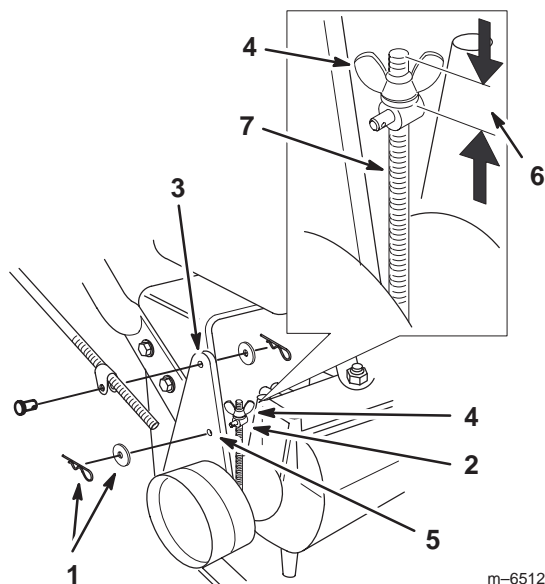

Figure 40
Note: For the initial adjustment, adjust the wing nut until it is 1–1/4 inches from the top of the rod (Fig. 40).
5. To adjust the brake remove the hair pin cotter and washer from the brake lever and trunnion (Fig. 40).
8. Install the trunnion into hole F (Fig. 40). Tighten the wing nut.
9. Secure trunnion to brake lever with washer and hair pin cotter (Fig. 40).